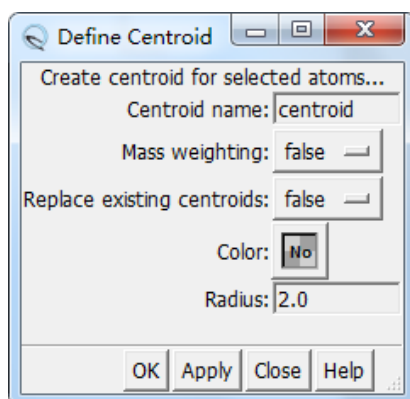

Figure 17. Define the centroid box.
4. Click “OK” in the pop-up (see Figure 17).